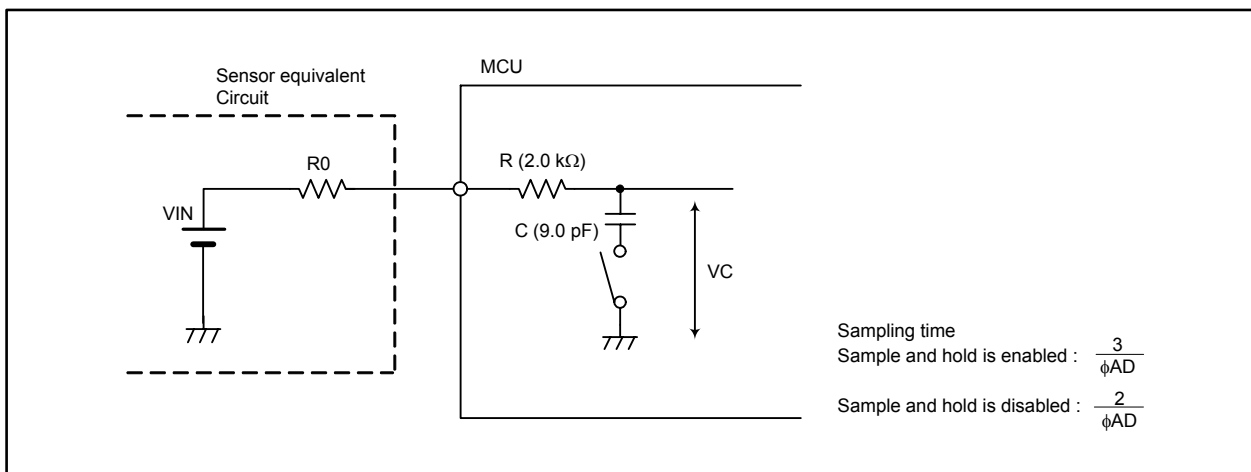

Figure 18.9 Analog Input Pin and External Sensor Equivalent Circuit
- (1) Set the PM24 bit in the PM2 register to 0 (clock selected by the CM07 bit).
- (2) Set the CM07 bit in the CM0 register to 0 (clock selected by the CM21 bit divided by the MCD register).
- (3) Set the MCD register to 12h (no division).
To take full advantage of the A/D converter performance, Internal capacitor (C) charge shown in Figure 18.9 must be completed within the specified period (T) as sampling time. Output impedance of the sensor equivalent circuit (R0) is determined by the following equation:
Figure 18.9 shows a connection example of analog input pin and external sensor equivalent circuit.